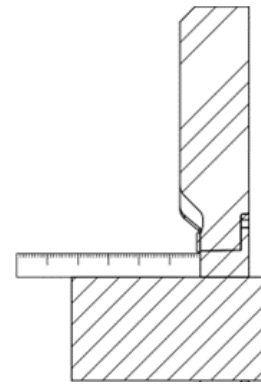

Figure 2b - Measurement of Axial Location of Fan Hub
- NOTE: The dimensions shown in Table 2b are to the fan hub, not the fan blade retaining ring. See Figure 2b.**